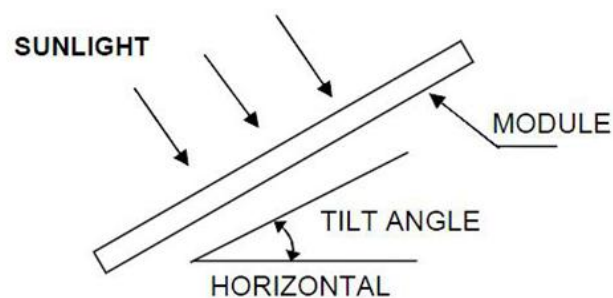

Figure 1. PV Module Tilt Angle
2. Solar modules should normally be mounted facing the equator at an angle to the horizontal plane equivalent to the latitude of the installation for optimum energy generation. The module tilt angle is measured between the solar modules and the horizontal (Figure 1). Any slope less than 5in/ft(127mm/305mm) is required to maintain a fire class rating.